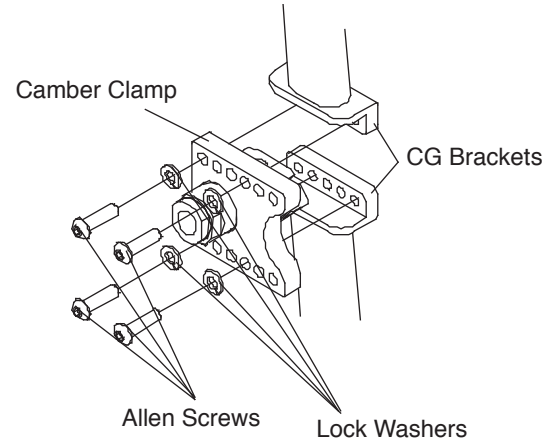

Figure 49
2. Remove the eight Allen Screws (four on each side of the chair) that secure the camber clamps to the CG brackets. See Figure 49.